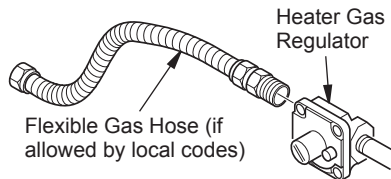

Figure 11 - Attaching Flexible Gas Hose to Heater Gas Regulator
1. Apply pipe joint sealant lightly to male threads of gas fitting (provided). Connect approved flexible gas hose to gas regulator of heater (see Figure 11).